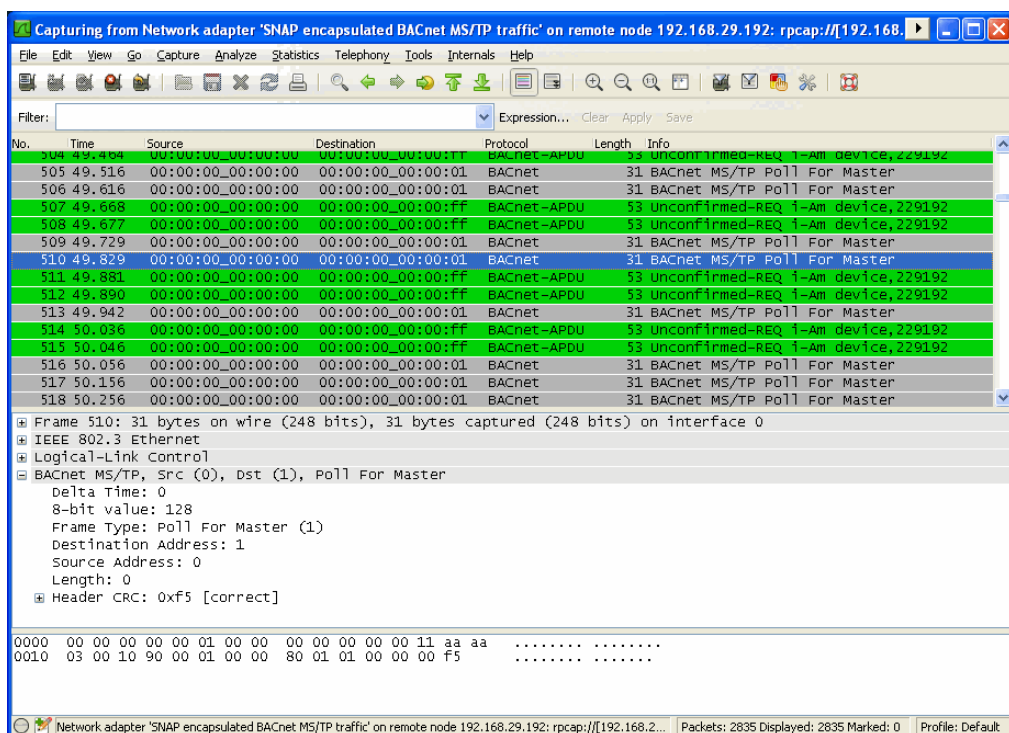

Figure 67: Example MS/TP remote capture in progress.
- Wireshark will attempt to establish a connection to the device and, if successful, start displaying packets. An example capture is shown in Figure 67.